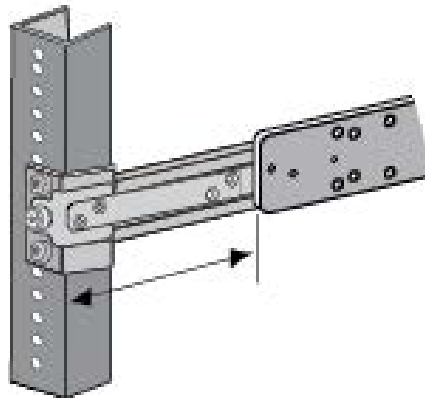

Figure 117. Verifying the Length of the Extension Bracket
5. Measure the distance from the front of the equipment rack to the front of the inner rail. Refer to Figure 117. This should approximately match the value you measured in “Measuring the Extension Bracket Lengths” on page 184.